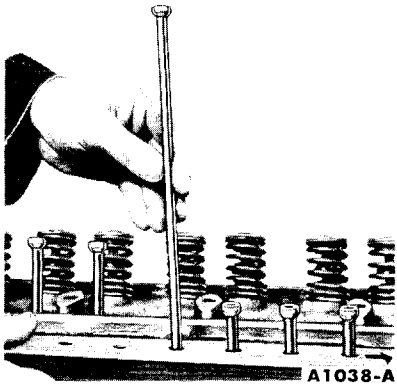

FIG. 14—Valve Push Rod Removal
13. Remove the valve push rods in sequence and identify them so they can be installed in their original positions (Fig. 14).